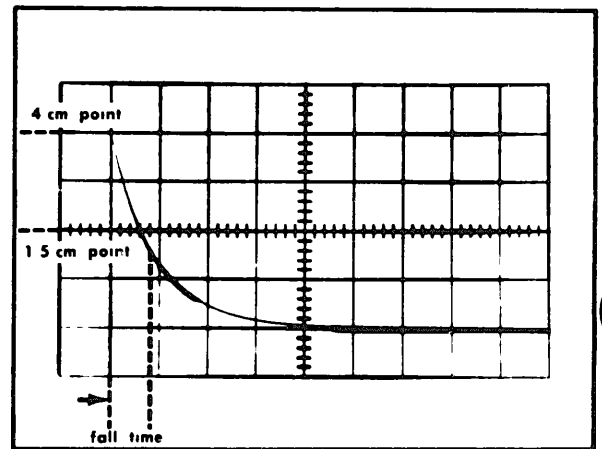

Fig 6-5 Measuring AC coupled low-frequency response using an RC curve
e. Position the display to the center of the graticule area and measure the time it takes the waveform to fall from 4 cm to 1.5 cm. See Fig 6-5